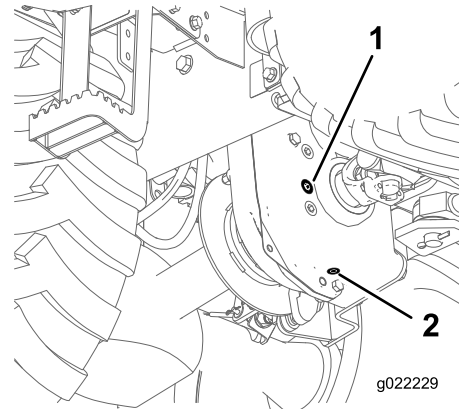

Figure 35
2. Clean the area around the fill plug with a cleaning solvent (Figure 35).